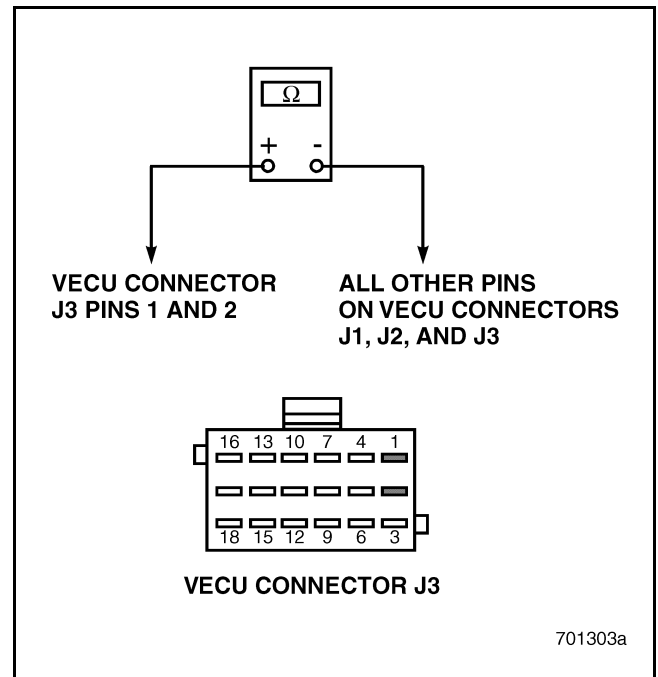

Figure 652
5. Check for continuity between VECU connector J3 pins 1 and 2 versus all other pins on VECU connectors J1, J2 and J3 (see Figure 652).